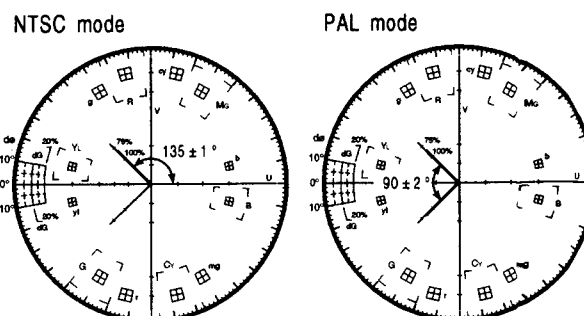

Fig. 5-38
- Adjust data with the **ARROW** keys so that the Burst Phase becomes $135 \pm 1^\circ$ as shown in Fig. 5-38.
- Confirm that the phase difference in between the Bursts should be within $90 \pm 2^\circ$ as shown in Fig. 5-38.